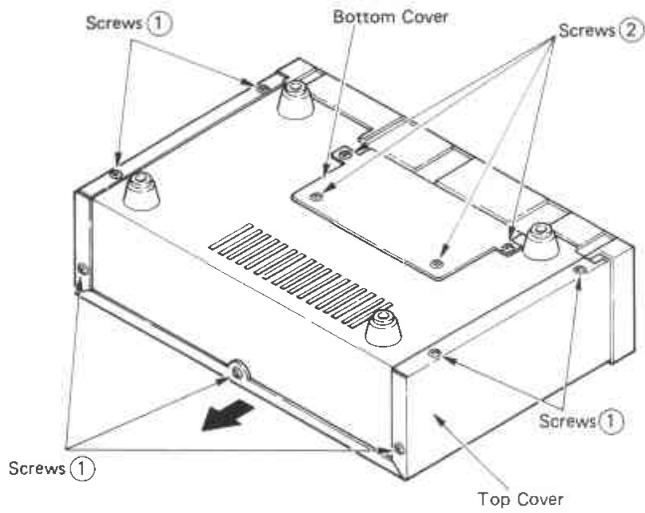

Fig. 1
- 1) Remove 7 top cover fixing screws (1) as shown in Fig. 1.
- 3) Remove 4 screws (2) as shown in Fig. 1 to detach the bottom cover.